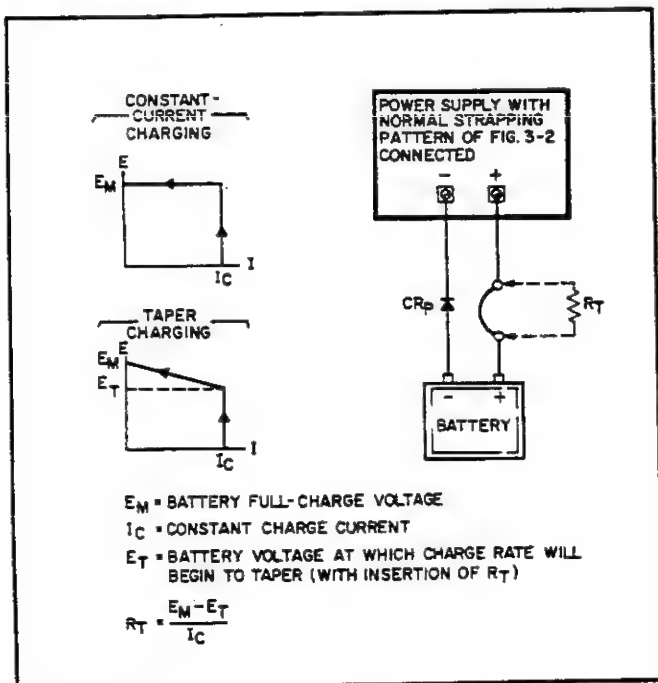

Figure 3-14. Battery Charging
Any time these supplies are used to charge a battery, be sure to install a protective diode CR_P in series with the battery as shown in Figure 3-14 to prevent the battery from discharging into the supply if the supply is turned off. Extensive damage to the supply could result if this diode were omitted.
- b. Connect a short circuit across the output terminals and rotate the VOLTAGE control fully clockwise (CW).
e. Adjust the **VOLTAGE** control for an output voltage 0.7 volts greater than the desired full charge voltage. (The added 0.7 volts compensates for the drop across R_T .) The supply may then be connected to the battery terminals, positive to positive and negative to negative as shown in Figure 3-14 (omit R_T).
3-82 Taper Charge. When charging lead-acid cells, many manufacturers recommend that the charging current be reduced as the charge nears completion. This can be accomplished by inserting a small resistance (R_T) in series with one of the load leads from the supply to the battery. (See Figure 3-14.) This resistor alters the normally rectangular charging plot in such a manner as to provide a taper charge for the last portion of the charge. The proper value for this resistor is the difference between the full charge voltage and the voltage at which the tapering is to start, divided by the initial charging current. Set the initial charging rate and full charge voltage as instructed in paragraph 3-81.